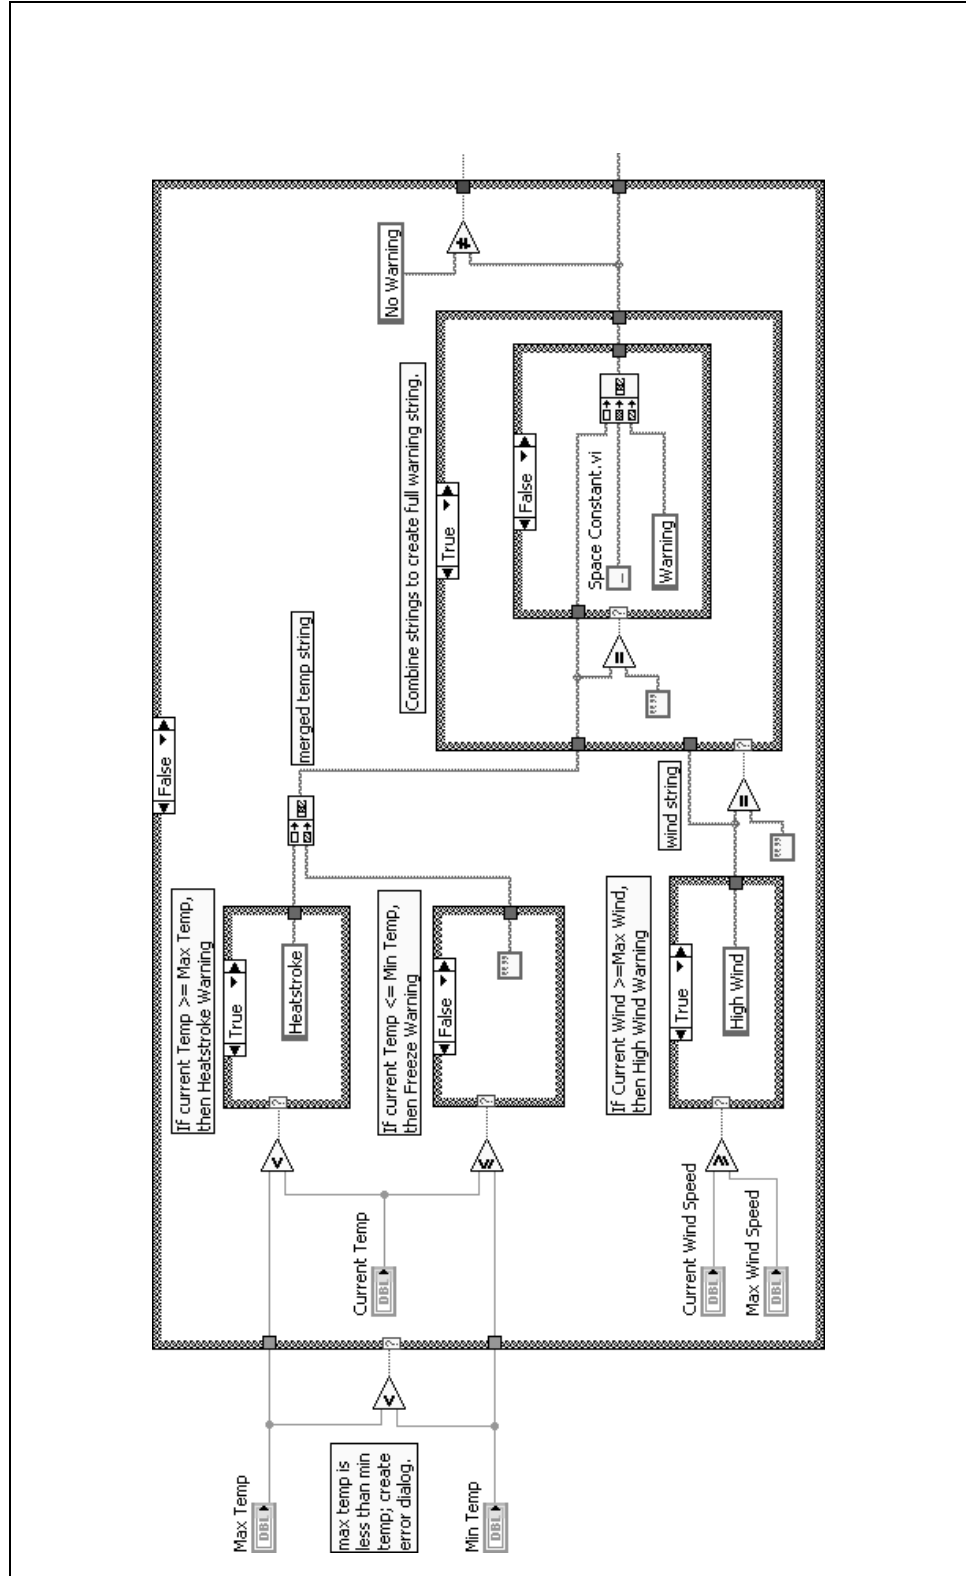

Figure 4-49. Determine More Warnings Block Diagram
Create a block diagram similar to Figure 4-49.
3. Use Figures 4-49 through 4-53 to assist you in building the block diagram code.